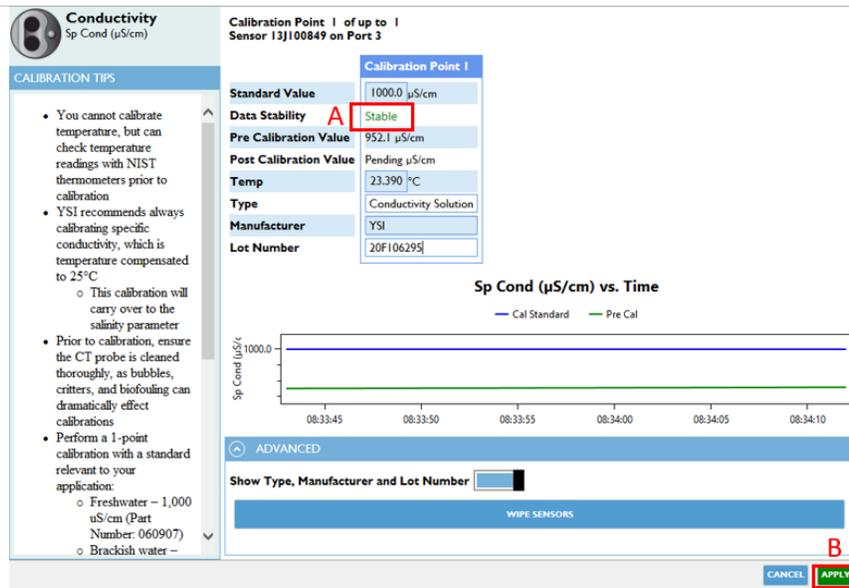

Figure 89. Wait for stable data before applying.
**STEP 3** | Observe the pre calibration value readings and the data stability. When the calibration window states “Stable”, click “Apply” (Figure 89) in the bottom right of the **Device Calibration** window to accept this calibration point.